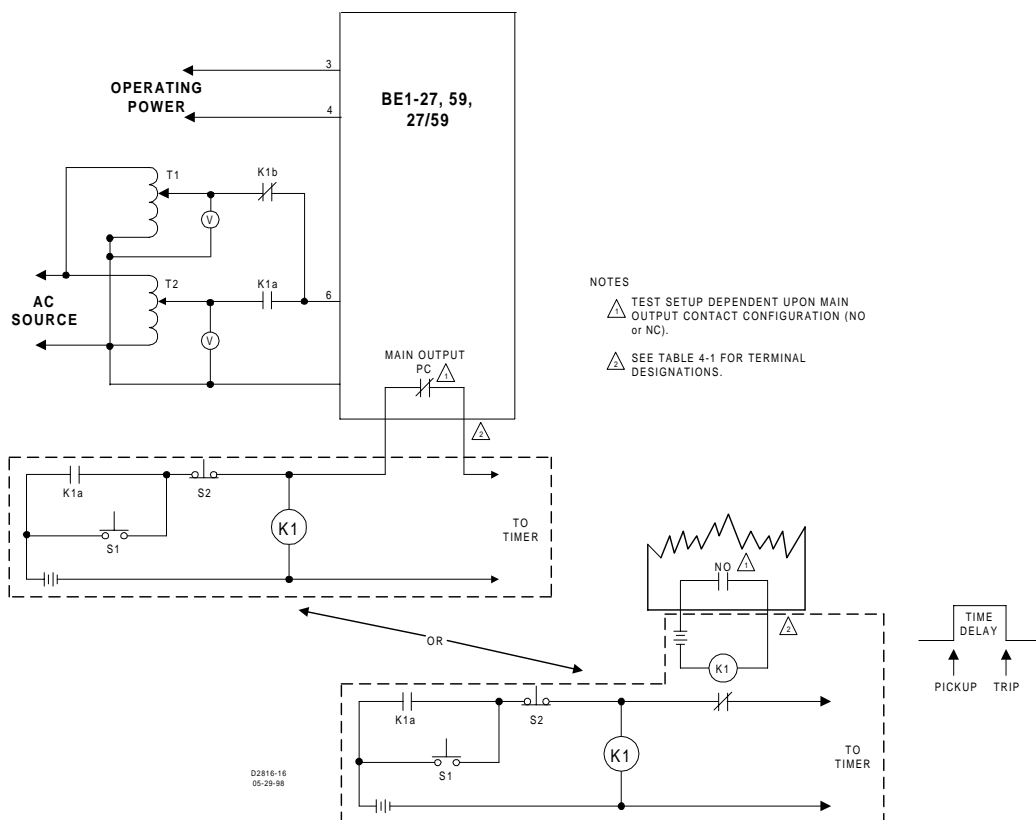

Figure 5-2. Timing Test Circuit Diagram
Step 1. Connect the test circuit shown in Figure 5-2. Output terminal connections are dependent on the function to be tested. (See Table 5-1.)